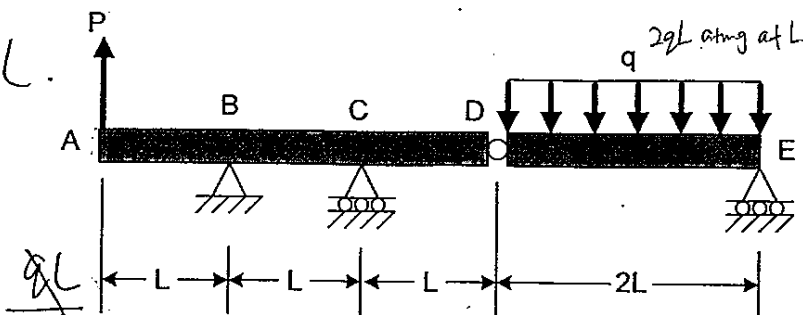

Figure Q2(a)
A rigid beam AD as shown in Figure Q2(b) is supported by a smooth pin B and by vertical rods that are attached to the beam at points A and C. The beam is horizontal when only rod (1) is attached and  $P = 0$ . Rod (2) was manufactured  $\delta = 0.5$  mm too short.